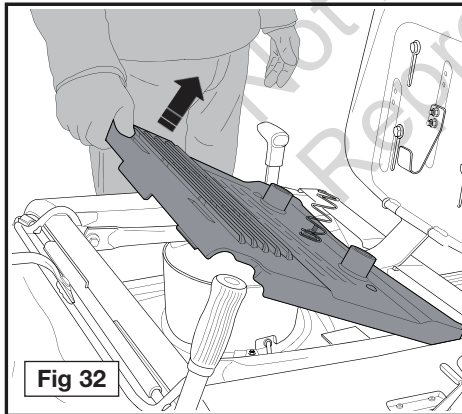

Fig 32
1) Lift the seat and engine compartment cover (fig.32)
- 1) Lift the seat and the engine compartment cover (fig.32)